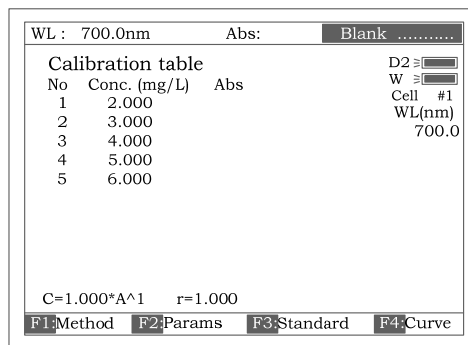

Fig 32
- Press [ESC/STOP] to finish inputting and to exit Fig 32.
- Push the blank cuvette into the light path, press [0Abs/%100T], the instrument will step to the wavelength and blank. See Fig 32.